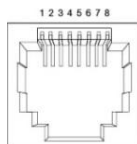

Figure 4
1. Insert the top of the DIN-Rail on to the track as shown below in *Figure 4*.